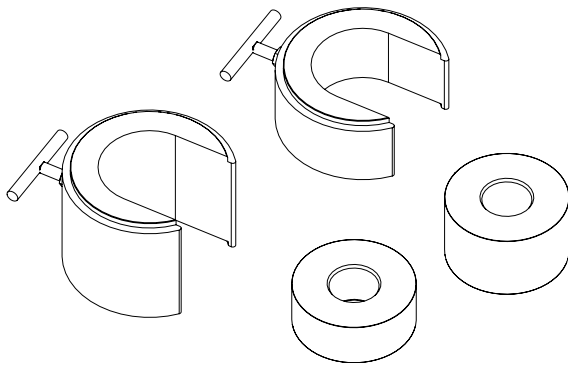

Fig. 6. Cribbing Blocks
- B. The use of blocking and cribbing is recommended to help prevent a falling load as shown in figure 6.